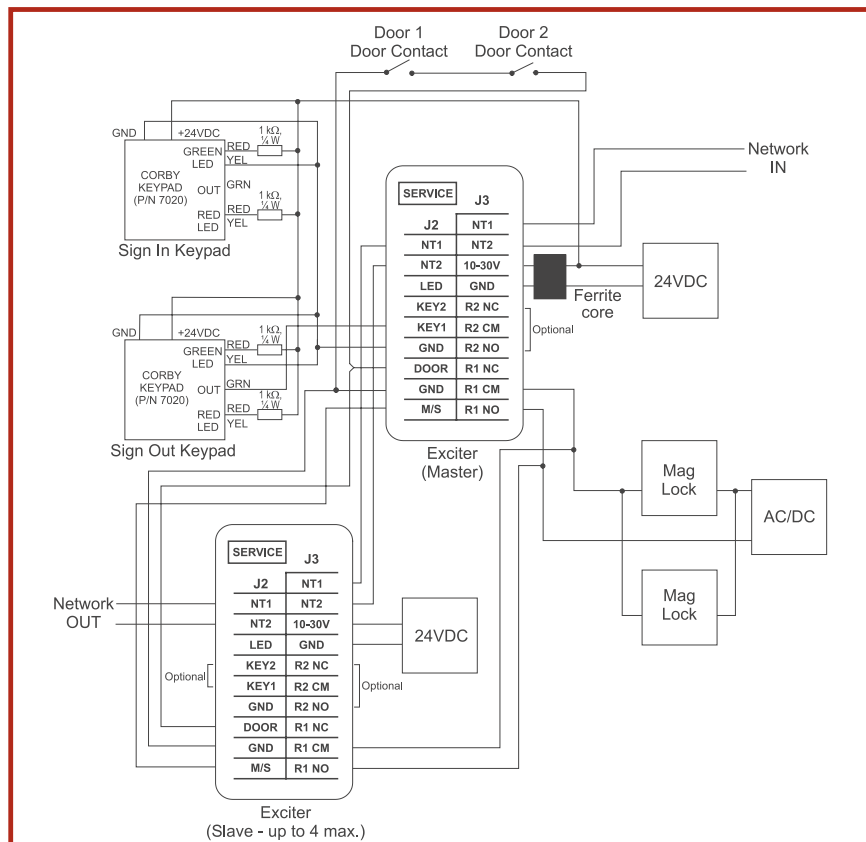

Figure 2: Master Exciter with one slave using its own ID, and two Corby keypads.
- Corby keypads may be powered at 12 or 24 VDC. If connected at 24 V, they require a 1 kW, 1/4 Ω resistor connected between the power supply and each keypad LED. Refer to **Figure 2** below.
For slave Exciters using their own ID numbers, the following is also required, as shown in **Figure 2**: